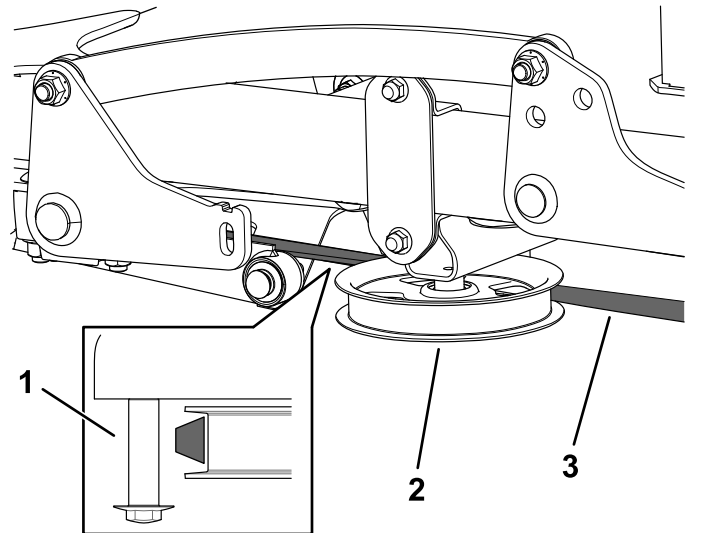

Figure 7
4. Route the belt to the idler pulley (Figure 7).
Important: Ensure that the wide side of the belt contacts the pulley as shown in Figure 7. Use the shoulder bolt as a guide for the belt.